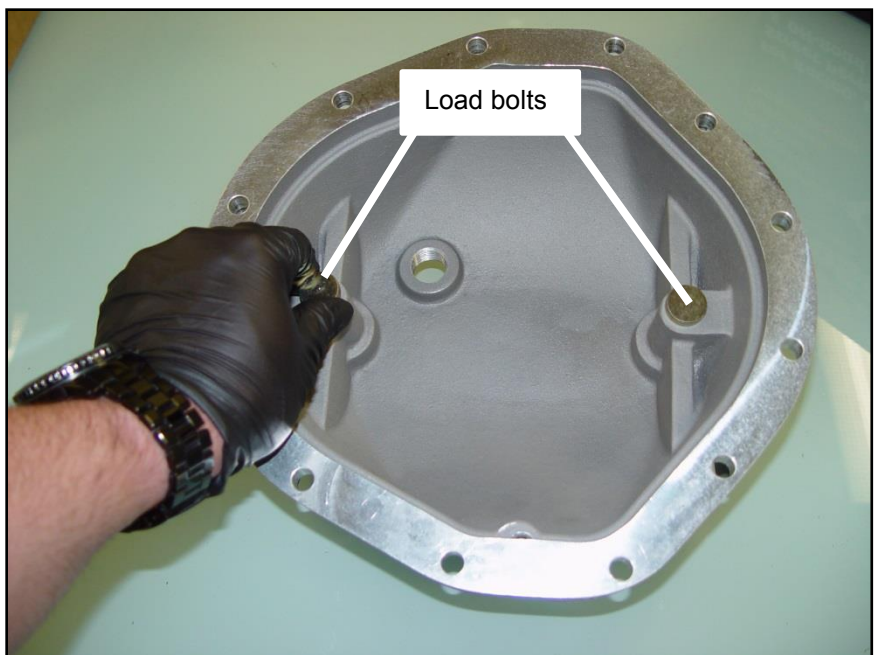

Figure 3
STEP 10. Install the supplied load bolts in each boss from the inside of the **B&M Cast Aluminum Rear End Cover** until they bottom out (See **Figure 3 & 4**).